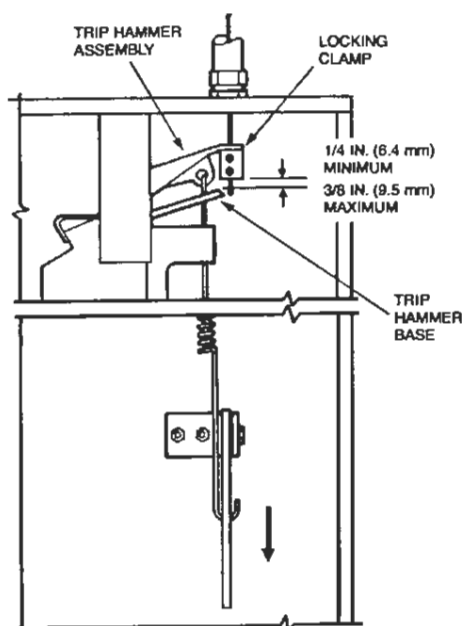

FIGURE 18
- ▶ 31. Inspect the base of the wire rope locking clamp to make certain that there is a minimum of 1/4 in. (6.4 mm) and a maximum of 3/8 in. (9.5 mm) clearance between the base of the trip hammer locking clamp assembly and the cable lever assembly. See Figure 18.